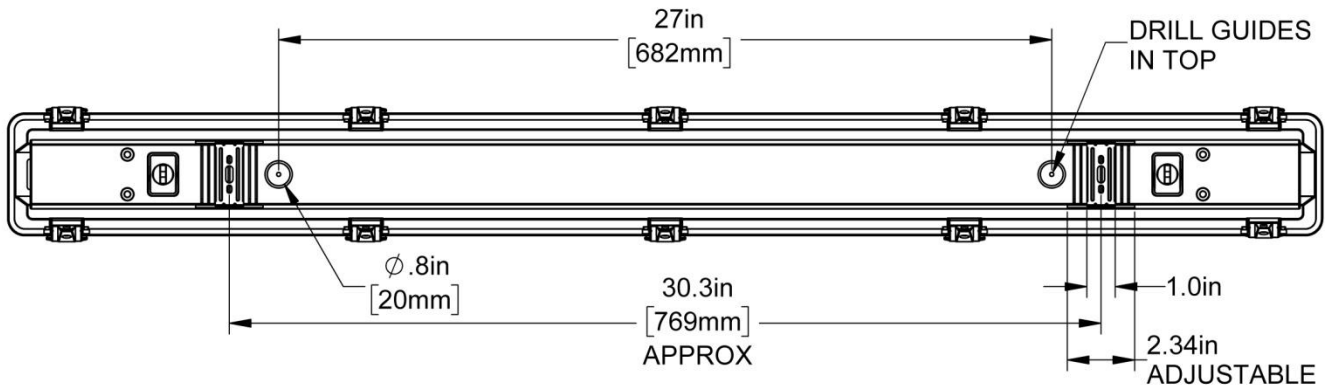

Figure 3
- Select location for mounting the fixture. Two brackets (2) are supplied with drywall anchors & screws (3) & (4). Approximate locations shown in **Figure 3**. 11/16" of adjustment in either direction provided in the housing for mounting bracket (2) locations.
- To locate, hold fixture assembly up to ceiling with power supply hole located over entryway for power supply wires. Mark the locations of the mounting holes for brackets (2) on the ceiling.
- If there is a joist, use a suitable wood screw (not provided) to mount the fixture housing. Where there is no joist to screw into, use drywall anchors (3) & (4) or toggle bolts (not provided) of suitable length to mount housing securely to the ceiling.